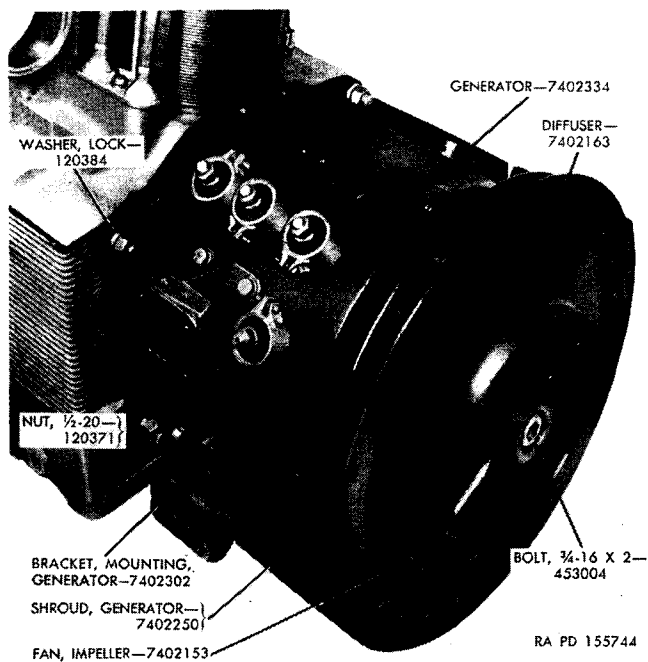

Figure 28. Generator.
- a.* Remove $\frac{3}{4}$ -16 x 2 bolt and washer that secures impeller fan to generator-armature shaft (figs. 28 and 29).
- d.* Upend engine and generator assembly and rest on wood blocks (figs. 28 and 32), then remove four $\frac{1}{2}$ -20 nuts and lock washers from generator-to-crankcase studs.